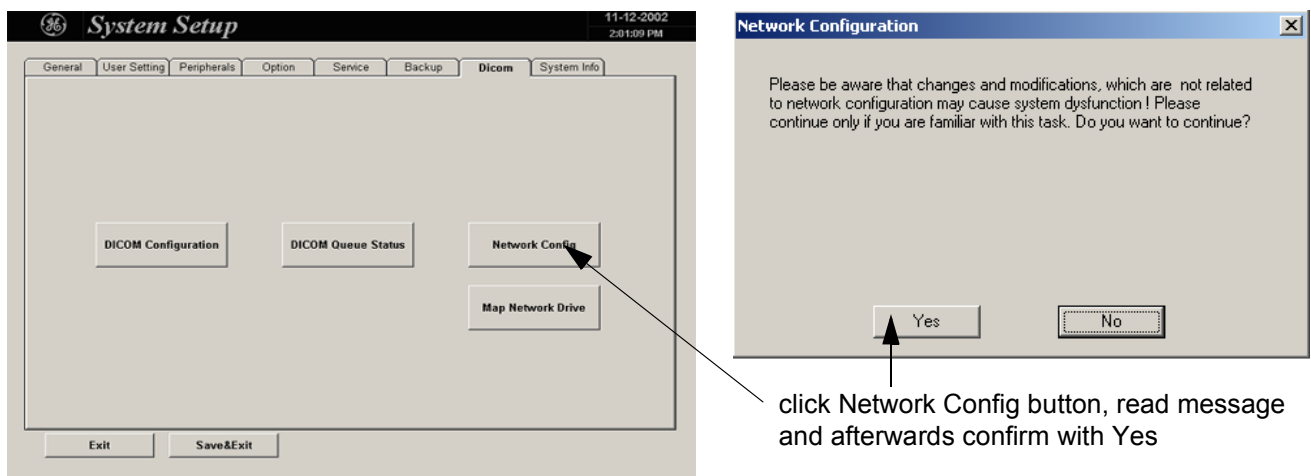

Figure 3-55 Network Configuration
- 1.) Select the MAP NETWORK DRIVE button (in the System Setup - **DICOM** page, see: Figure 3-55) to open a dialog where the system can be connected to a shared network drive of another server.